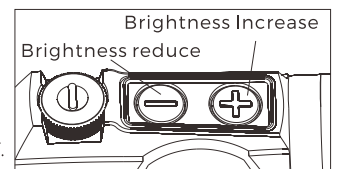

Fig 5
1. Switch on (see Fig5): Press and release either brightness button ("+"or"-") to turn on the sight.